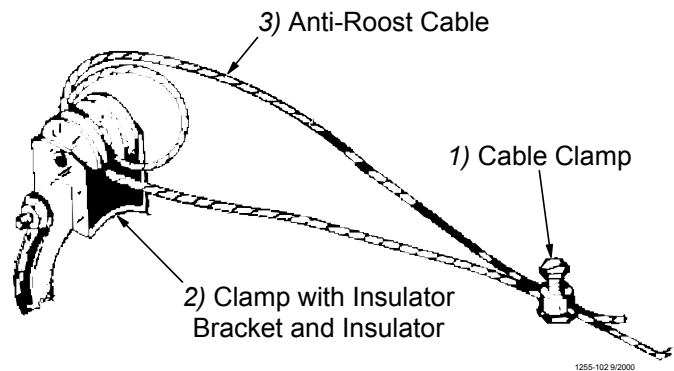

Figure 79. Anti-Roost Cable at the Hopper
2. Start at the hopper end of the line and form a loop around the anti-roost bracket. For best results, make a double loop around the anti-roost insulator in the center groove of the insulator and fasten with a 1/16" cable clamp as shown in **Figure 79**.